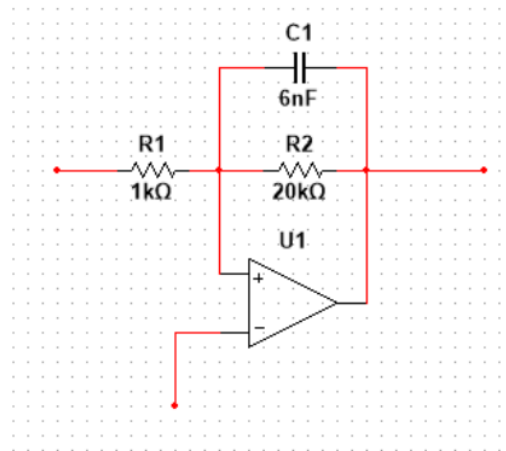

Figure 47 Frequency Performance First Order Electronic System for Task 9
10.1: Select a suitable value for C1 for the electronic system shown in figures 47 and determine the expected frequency performance.